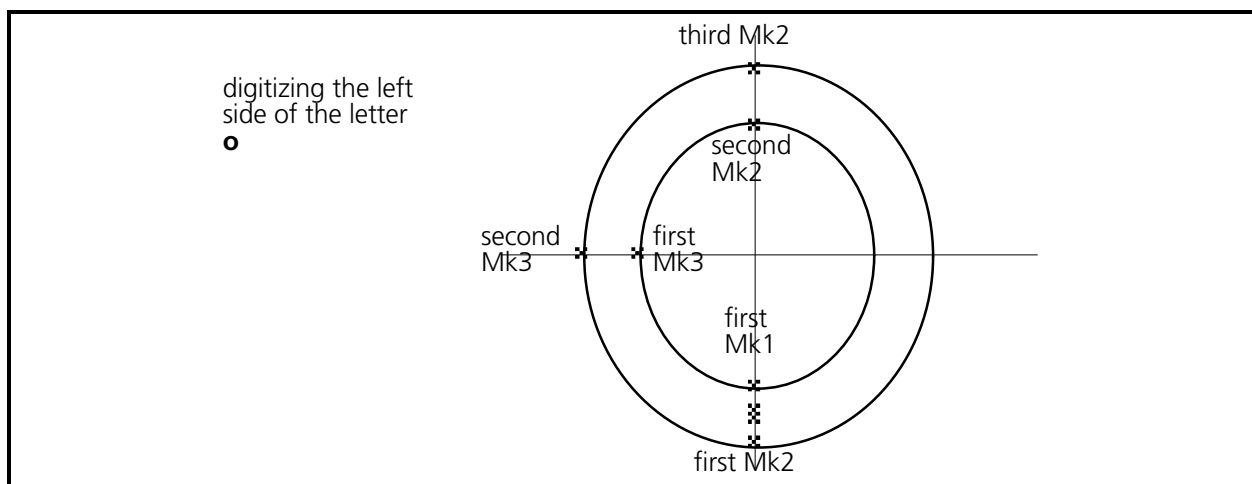

Figure 6-44
1. At the bottom middle of the inside circle of the letter **o** enter the first Mk1 (see Figure 6-44).
2. Enter the first Mk2 at the bottom of the outside circle of the letter (see Figure 6-44).
3. Enter your first Mk3 for defining the curvature of the inside line of the left arc directly on the inside boundary of the **o**, 90 degrees away as plotted in Figure 6-44.
4. Enter the second Mk3 for defining the curvature of the outside line of the left arc directly on the outside boundary of the **o**, 90 degrees away as plotted in Figure 6-44).
5. Enter the second Mk2 defining the end of the inside of the column directly at top of the inside circle of the letter (see Figure 6-44).
6. Enter the third Mk2 to define the end of the outside of the column directly at the top of the outside circle of the letter (see Figure 6-44).